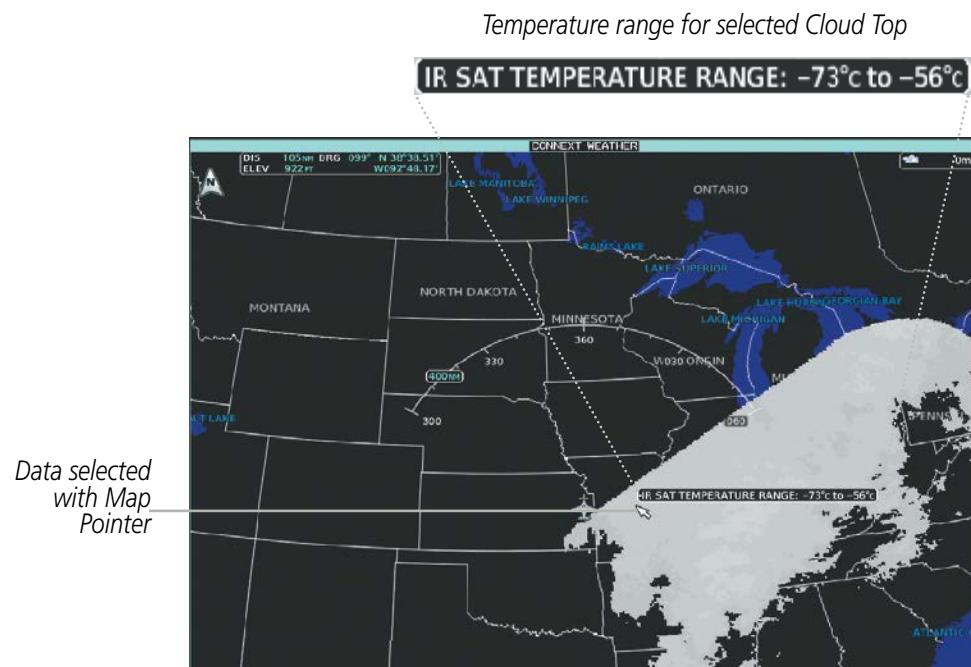

Figure 6-64 Cloud Tops Weather Product on Connex Weather Pane
The Infrared (IR) Satellite weather product (Figure 6-64) depicts cloud top temperatures, as determined from infrared satellite imagery. Darker colors indicate warmer cloud tops typically associated with lower altitudes; lighter colors indicate cooler cloud tops typically associated with higher altitudes. When panning over a Cloud Top with the Map Pointer, the system displays an estimated temperature range for the selected Cloud Top.